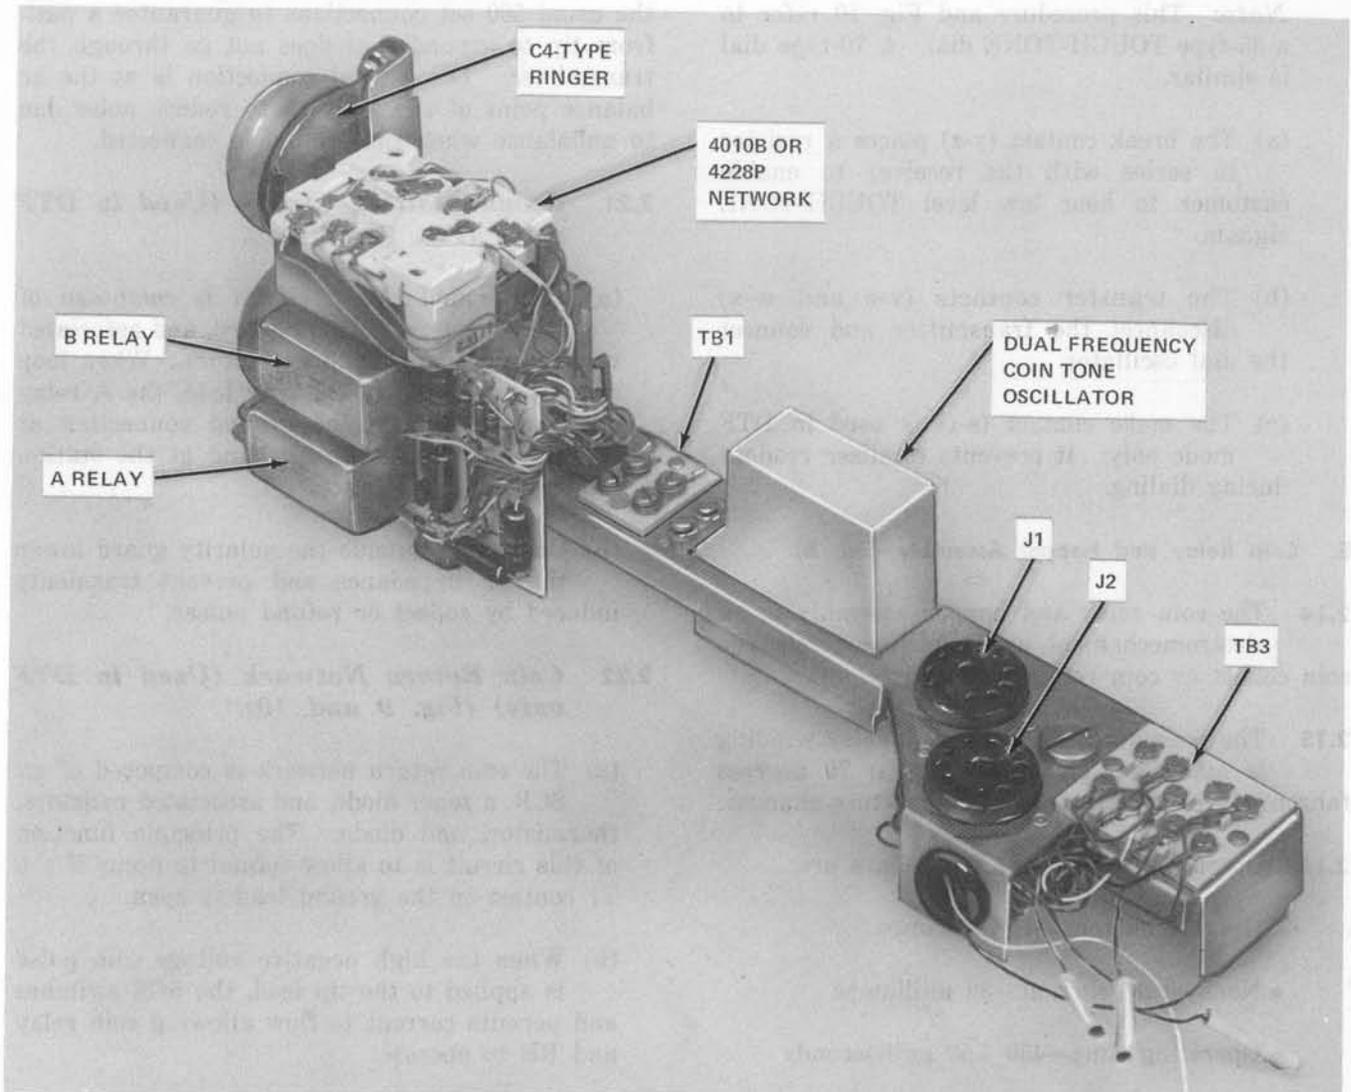

Fig. 6—31A Coin Chassis
- (1) Nickel—1 beep tone
- (2) Dime—2 beep tone
- (3) Pulsing rate—5-8.5 PPS
C. **Coin Chassis (Fig. 6)**